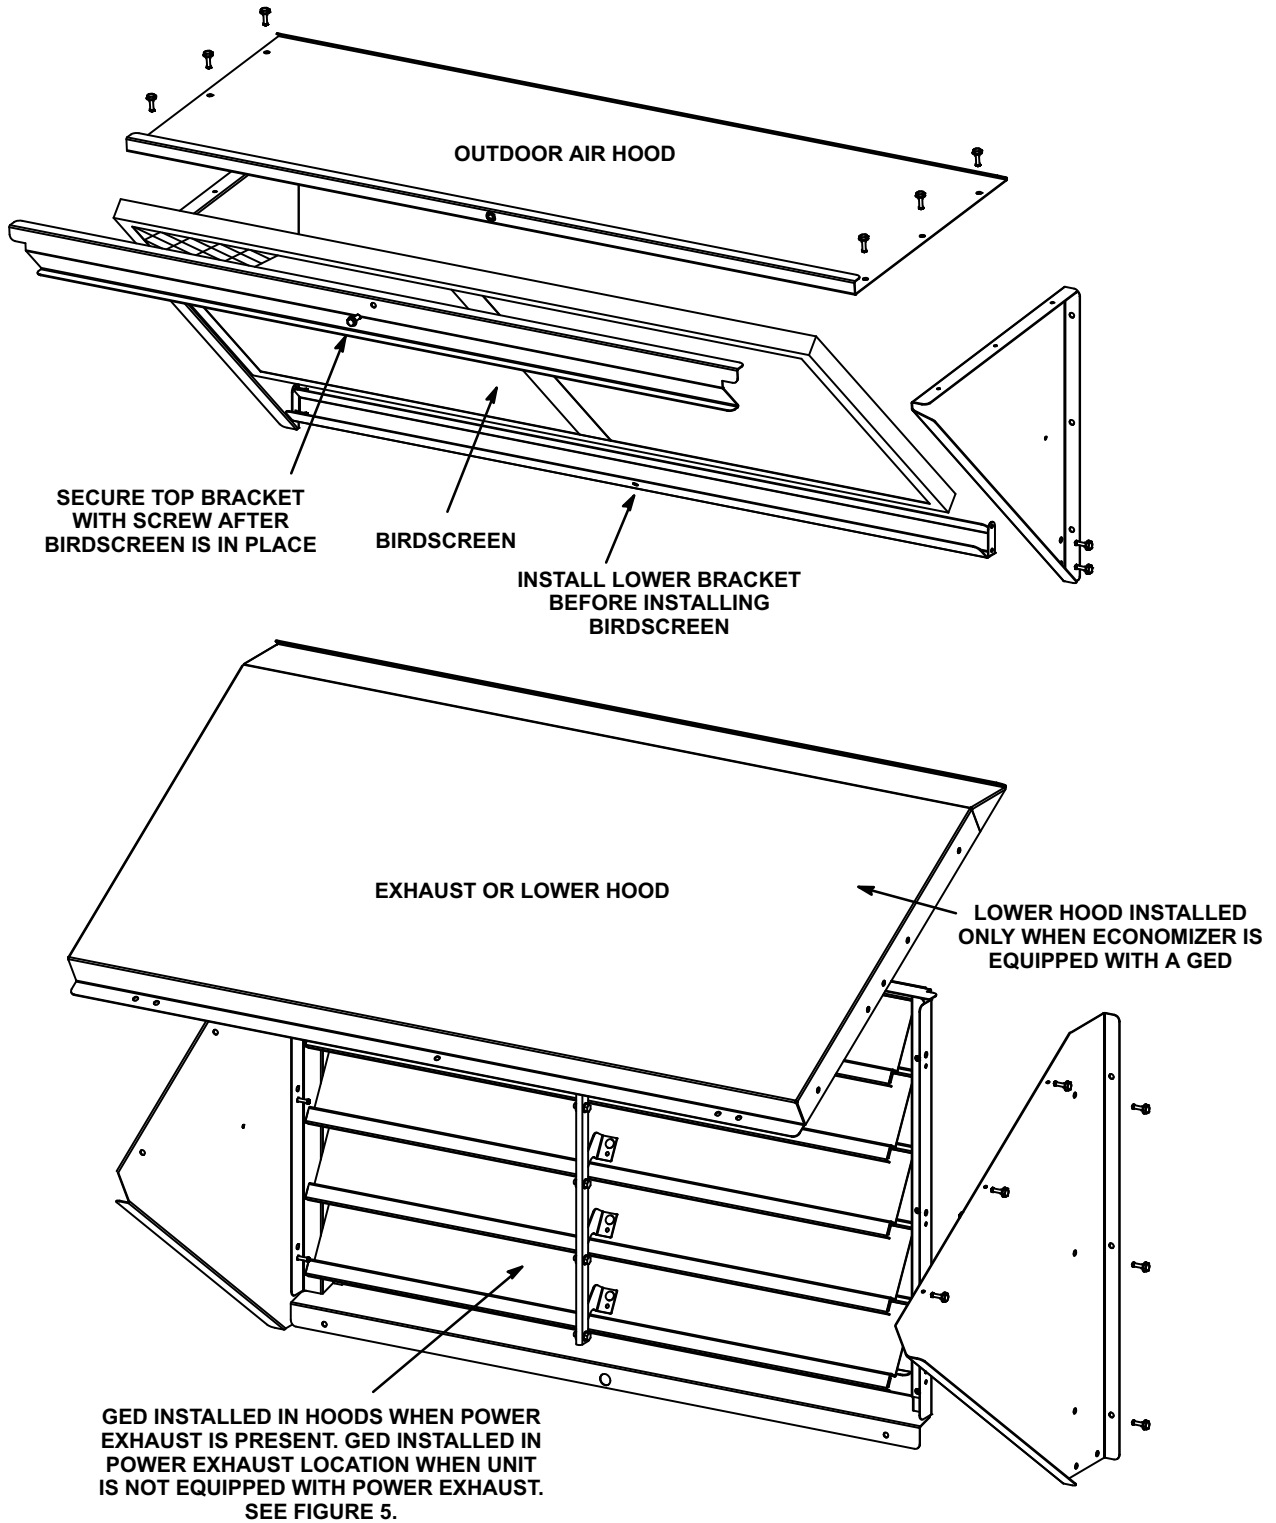

FIGURE 6
- 2- Install the GED in the exhaust or lower hood as shown in figure 6.
- 3- Assemble hoods as shown in figure 6. Slide top of hoods into the ends of pivot brackets. Install bird screen bracket after bird screens are in place.